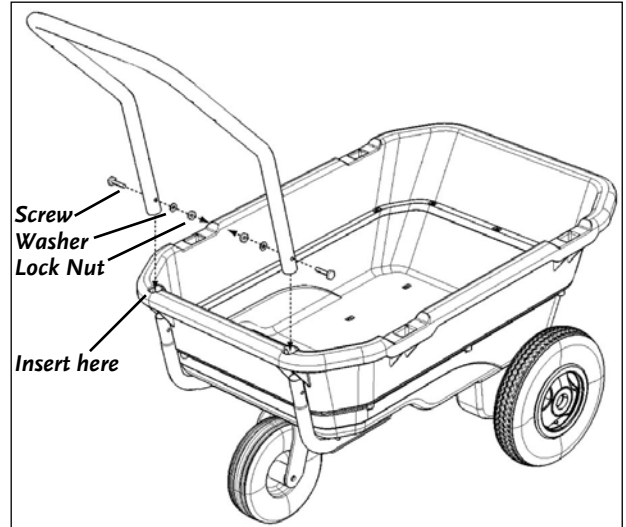

Figure 5. Screw the upper handle onto the lower handles.
- Open the red hardware bag which includes only two screws. Insert a 1/4" x 1-1/2" screw from the outside of the handle, passing through the screw hole where the upper and lower handles attach (**Figure 5**).